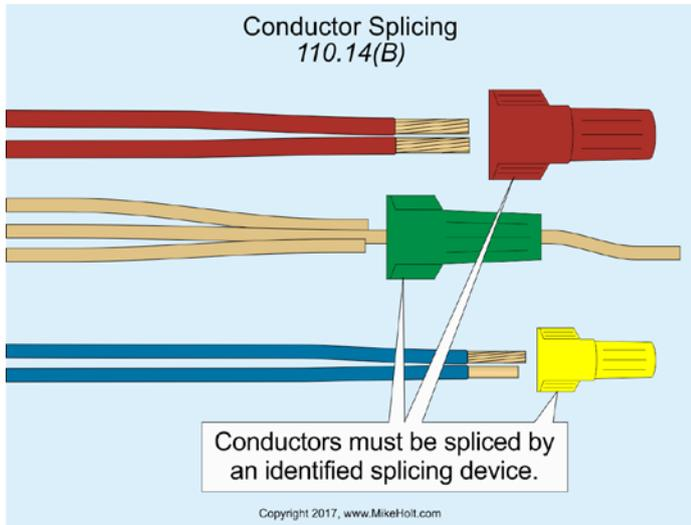

Figure 110-12
**(B) Conductor Splices.** Conductors must be spliced by a splicing device identified for the purpose or by exothermic welding. Figure 110-12